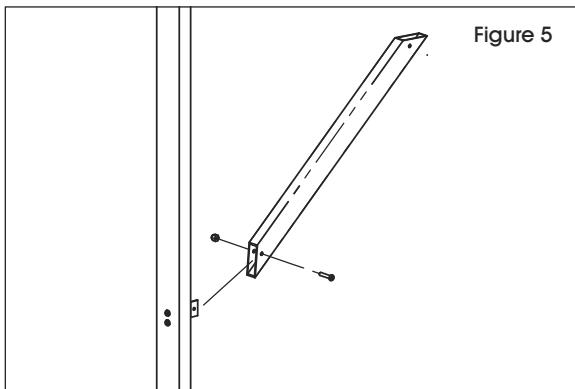

Figure 5
7. Attach one brace to each leg using one 1" screw and one acorn nut. The brace slides over the small U-bracket. Repeat for the other leg. (See Figure 5)